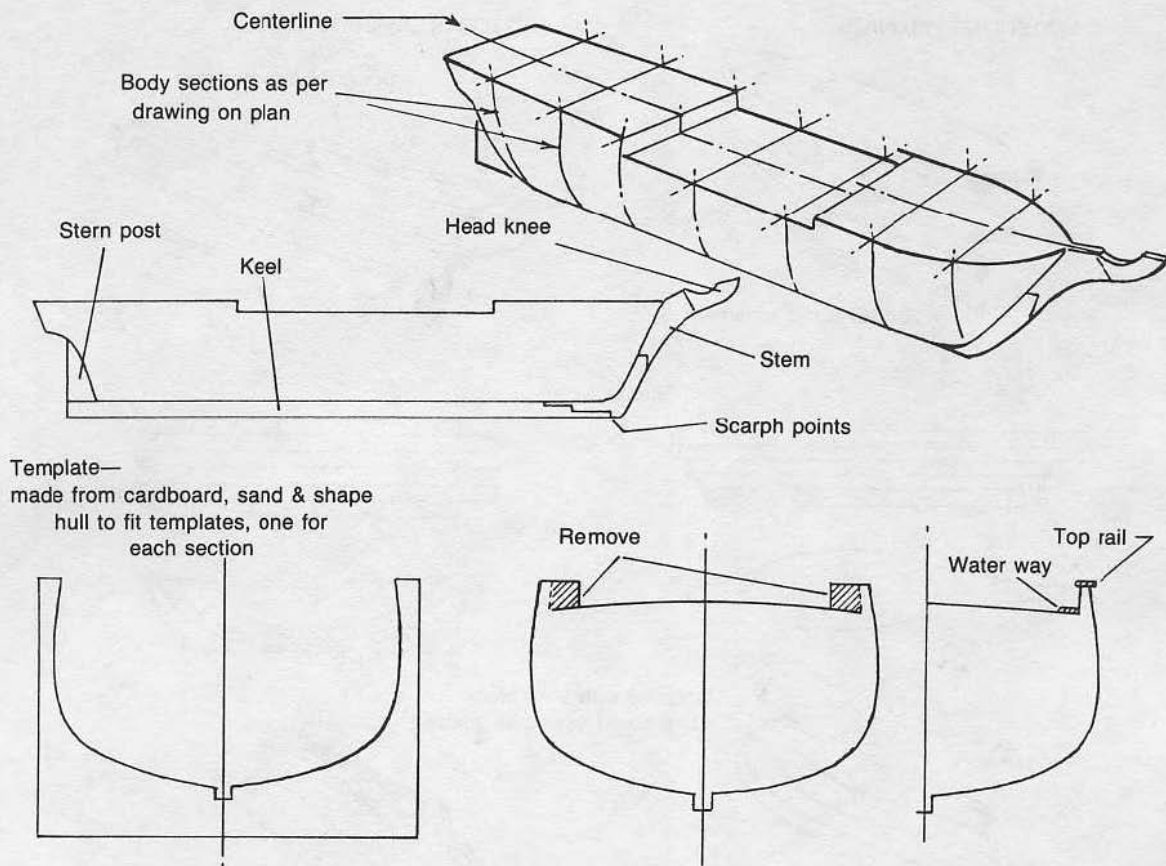

Fig. 10-5. Steps in accurate hull carving and preparation of solid kit hulls (Courtesy of Northshore Deadeyes, Ltd.).
- ✳ You can apply decking in one piece (FIG. 10-5). Scribed decking is often furnished with the kit or as individual planks. (See Chapter 9.)